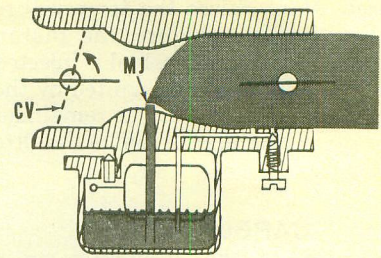

Fig. 1-14—As choke valve (CV) is closed as shown by the broken lines, vacuum is increased at main jet (MJ).
**CHOKE PLATE.** Fig. 1-14 shows a typical choke plate installation in relation to the carburetor venturi.
At cranking speeds, air flows through the carburetor venturi at a slow speed; thus, the pressure in the venturi does not usually decrease to the extent that atmospheric pressure on the fuel will force enough fuel from the nozzle. If the choke plate is closed as shown by the broken line in Fig. 1-14, air cannot enter into the carburetor